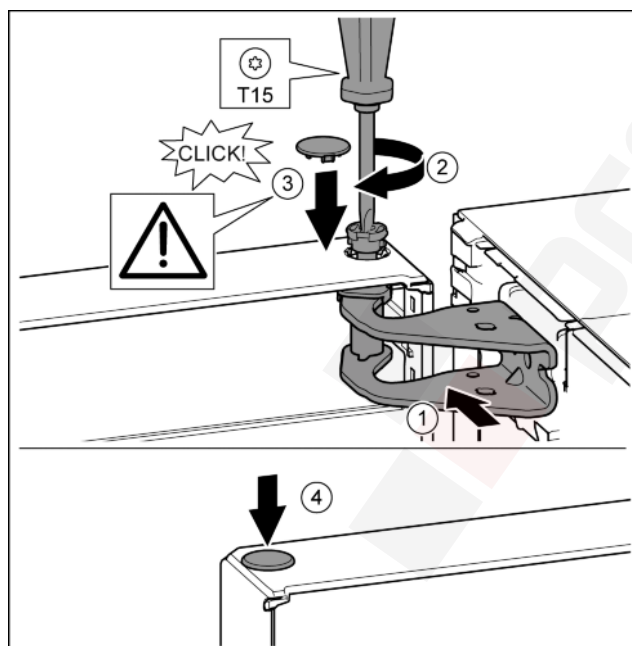

Fig. 16
- Align the top of the door with opening in the bearing bracket. Fig. 16 (1)
- Insert the bolt and tighten with a T15 screwdriver. Fig. 16 (2)
- Fit the protective cover to protect the door: Insert the protective cover and check that it is attached to the door. If not, insert the bolt fully. Fig. 16 (3)
- Insert the plugs. Fig. 16 (4)